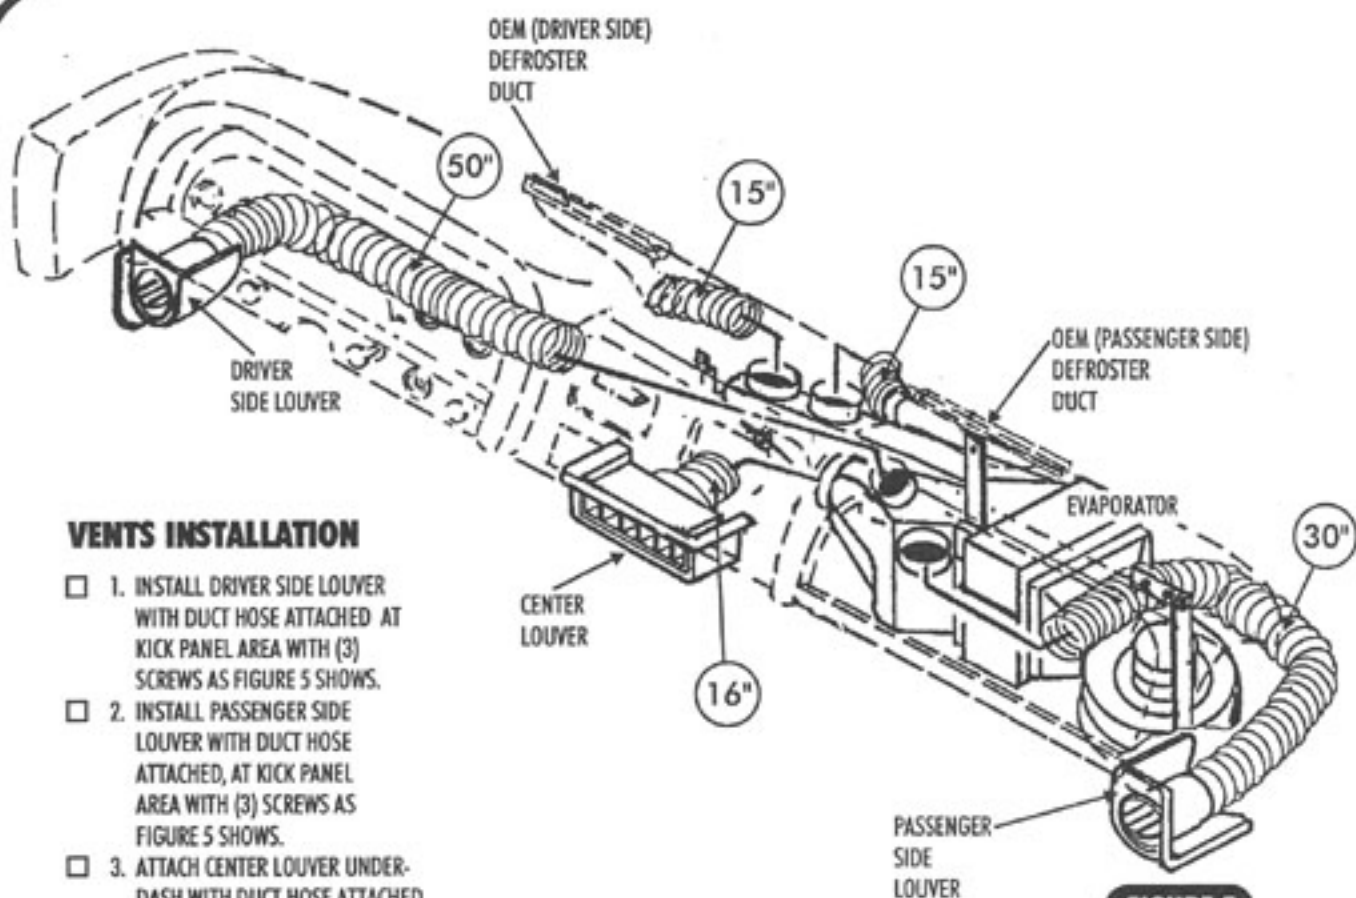

FIGURE 5
- 1. INSTALL DRIVER SIDE LOUVER WITH DUCT HOSE ATTACHED AT KICK PANEL AREA WITH (3) SCREWS AS FIGURE 5 SHOWS.
- 2. INSTALL PASSENGER SIDE LOUVER WITH DUCT HOSE ATTACHED, AT KICK PANEL AREA WITH (3) SCREWS AS FIGURE 5 SHOWS.
- 3. ATTACH CENTER LOUVER UNDER-DASH WITH DUCT HOSE ATTACHED AS FIGURE 5 SHOWS.
- 5. INSTALL AND ROUTE THE (2-1/2") DUCT HOSES FROM ALL THE LOUVERS ON DASH AND KICK PANELS TO EVAPORATOR AS FIGURE 5 SHOWS. (2-1/2") DUCT HOSE FROM CENTER LOUVER TO EVAPORATOR 16". (2-1/2") DUCT HOSE FROM DRIVER LOUVER TO EVAPORATOR 50". (2-1/2") DUCT HOSE FROM PASSENGER SIDE LOUVER TO EVAPORATOR 30".